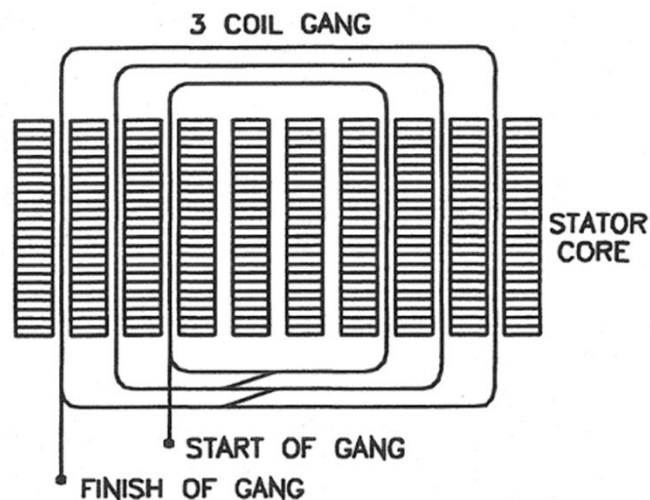

Figure 2 - Concentric coils wound in a gang
5. The stator core of a typical split phase type motor is made up of a stack of laminations with semi-enclosed slots. The wound poles are made up of three or four series connected coils wound in concentric gangs as shown in Figure 2 - one gang for each magnetic pole.